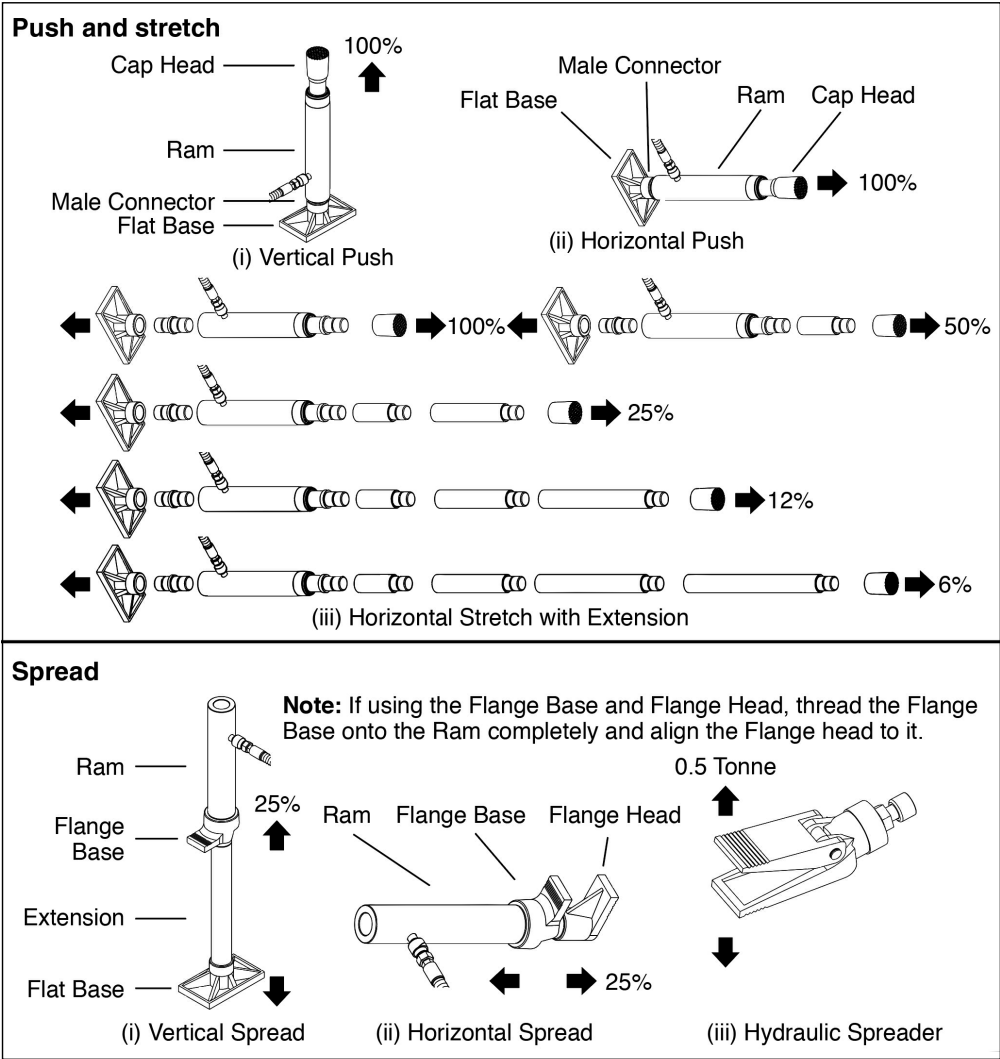

Fig. 2
6.3 Ram Set Up - Fig. 2
- 1. Clean the end of the hose coupler (8) and the inlet on the ram (9).
- 2. Unscrew and save the dust covers located on the end of the hose coupler (8) and ram (9).
- 4. Assemble attachments as shown in Fig 2.